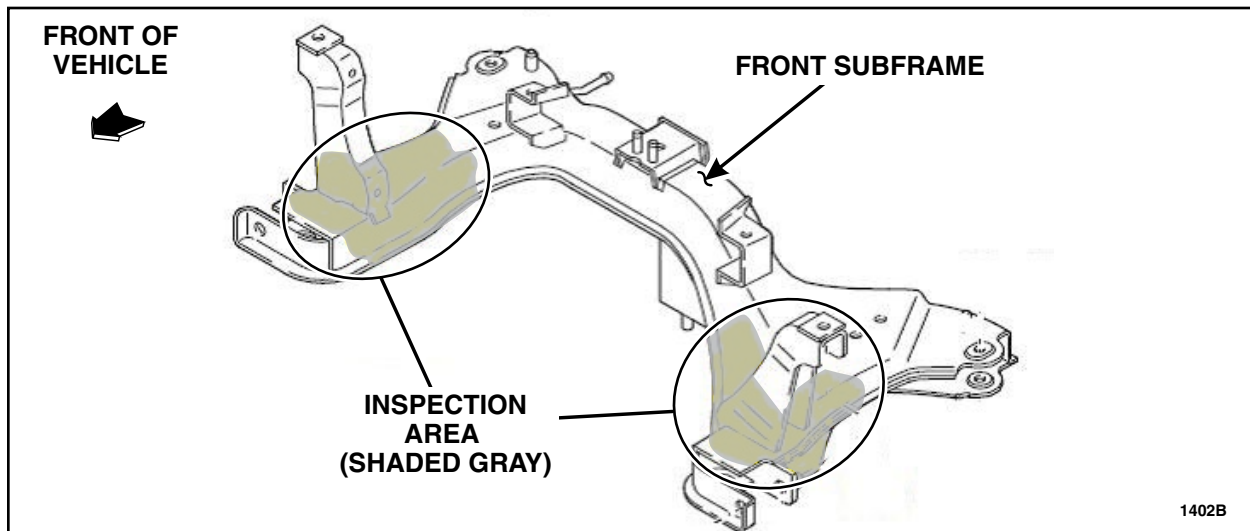

FIGURE 2
2. Evaluate the front subframe in the areas indicated. See Figure 2.